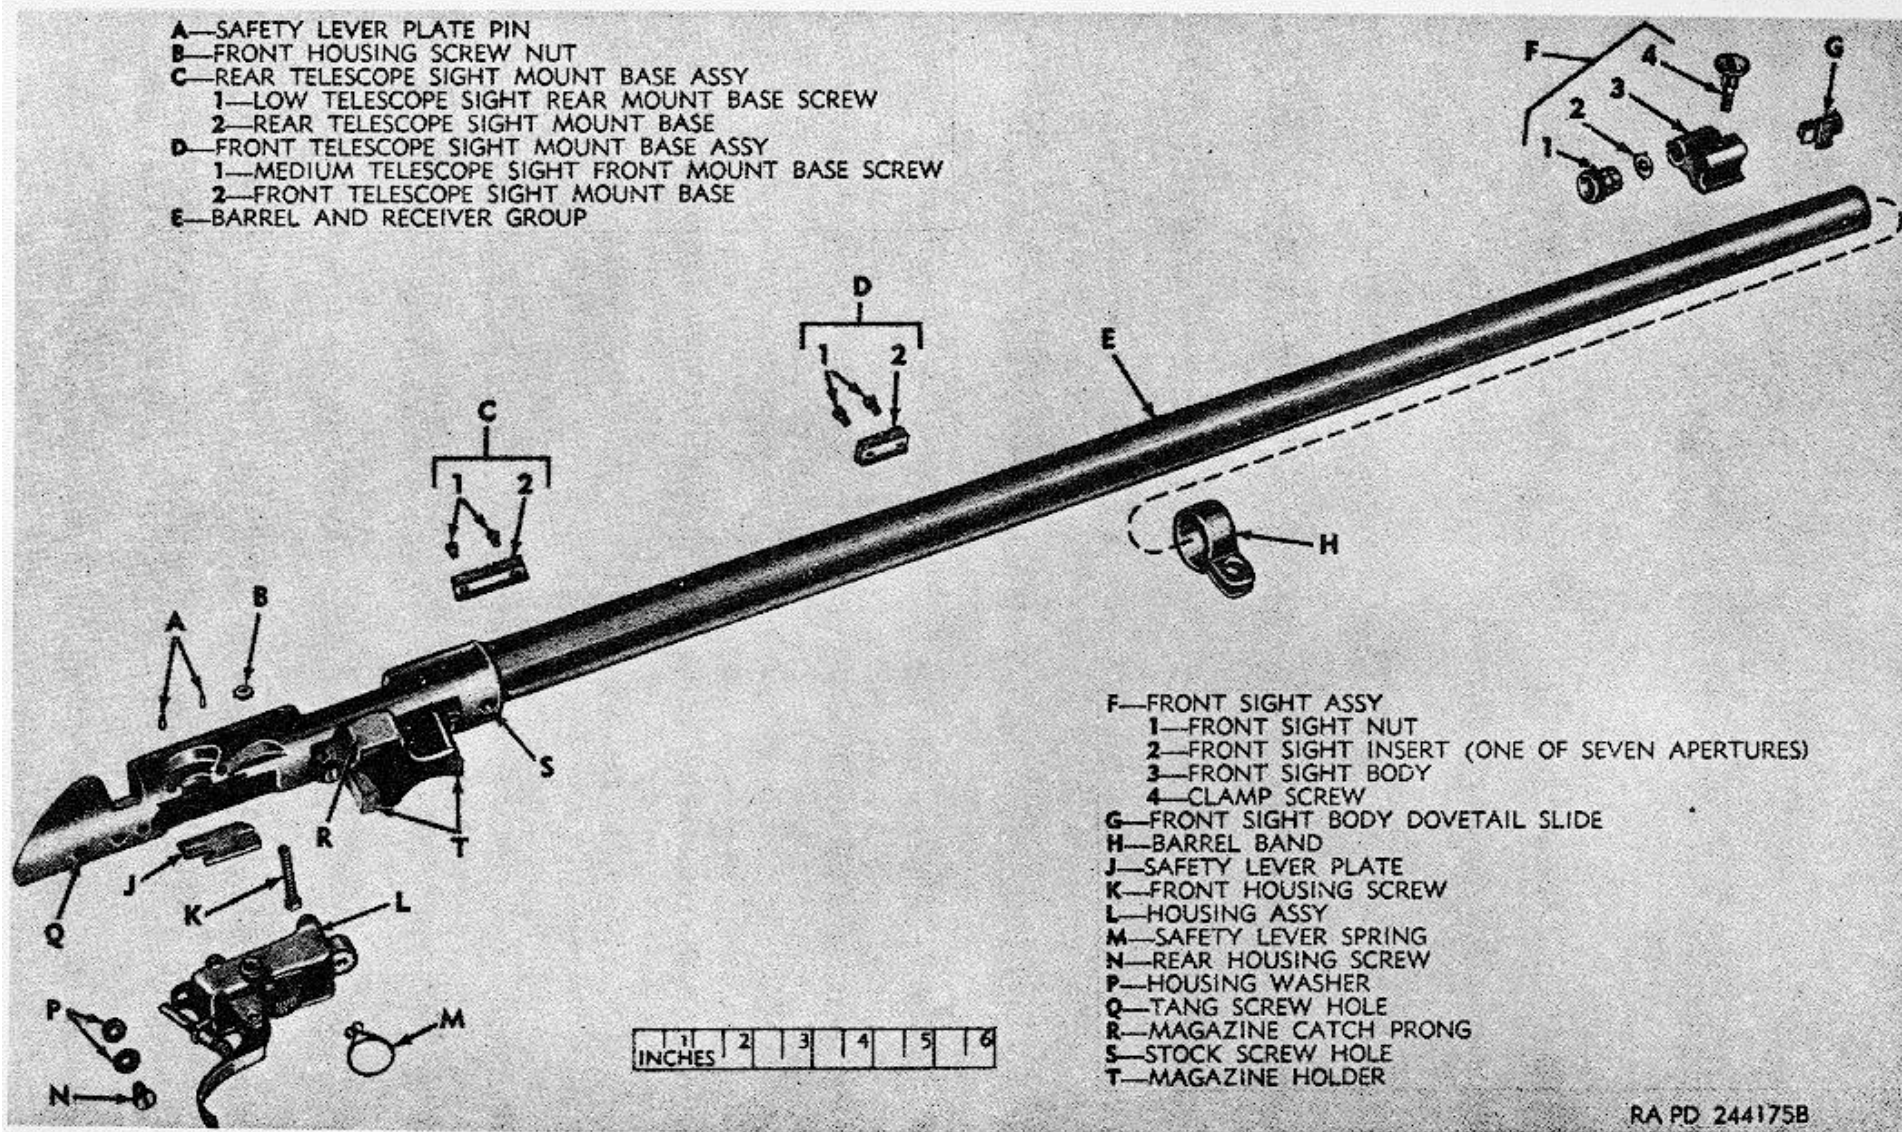

Figure 60. Barrel and receiver group with related parts removed (Winchester rifle M52 (HB)).
**Note.** The key letters shown below in parentheses refer to figure 60.
- (7) Slide the safety lever plate (J, fig. 60) in its groove in the receiver to its extreme forward position. Install the housing assembly on the receiver and align holes; there must be no interference between the safety lever plate and the sear pin.